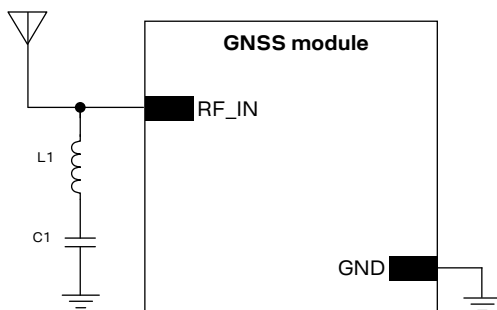

Figure 27: Simple notch filter for improved out-of-band jamming immunity against a single jamming frequency
- add a notch filter along the GNSS RF path, in front of SAW filter, at the frequency of the jammer (for example, as depicted in Figure 27, a simple notch filter can be realized by the series connection of a discrete capacitor and inductor)
With reference to Figure 27, a simple notch filter can be realized by the series connection of an inductor and capacitor. Capacitor C1 and inductor L1 values are calculated according to the formula: